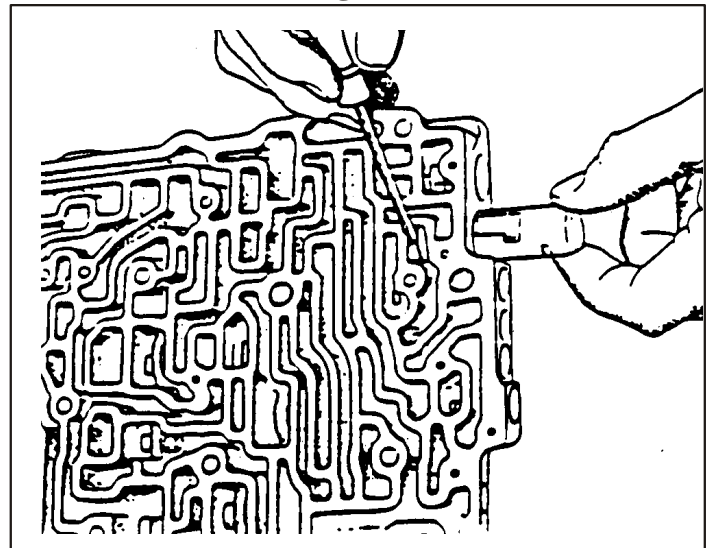

Figure 3
9. Slowly release pressure on the control valve and remove it from the body. A small flat blade screwdriver may be used to remove the bushing from the bore. (Refer to Figure 3).